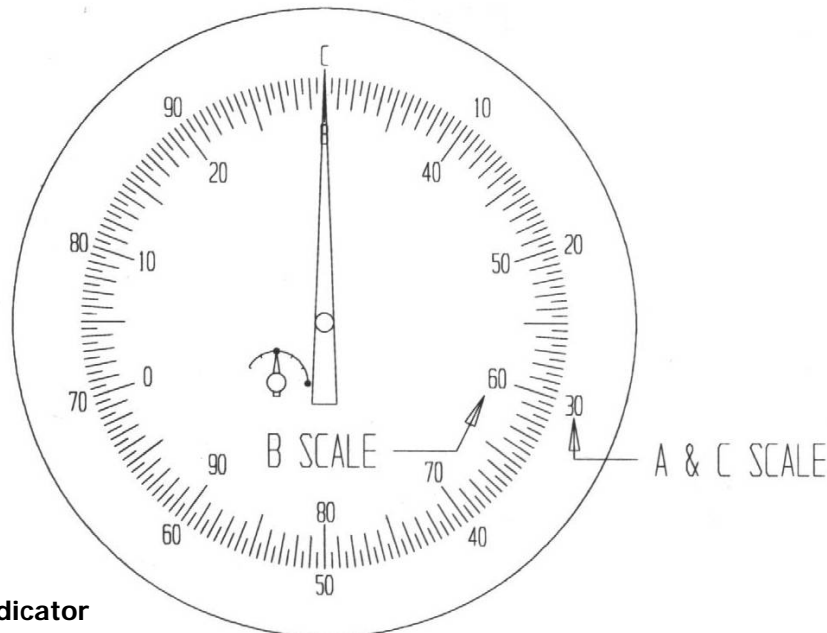
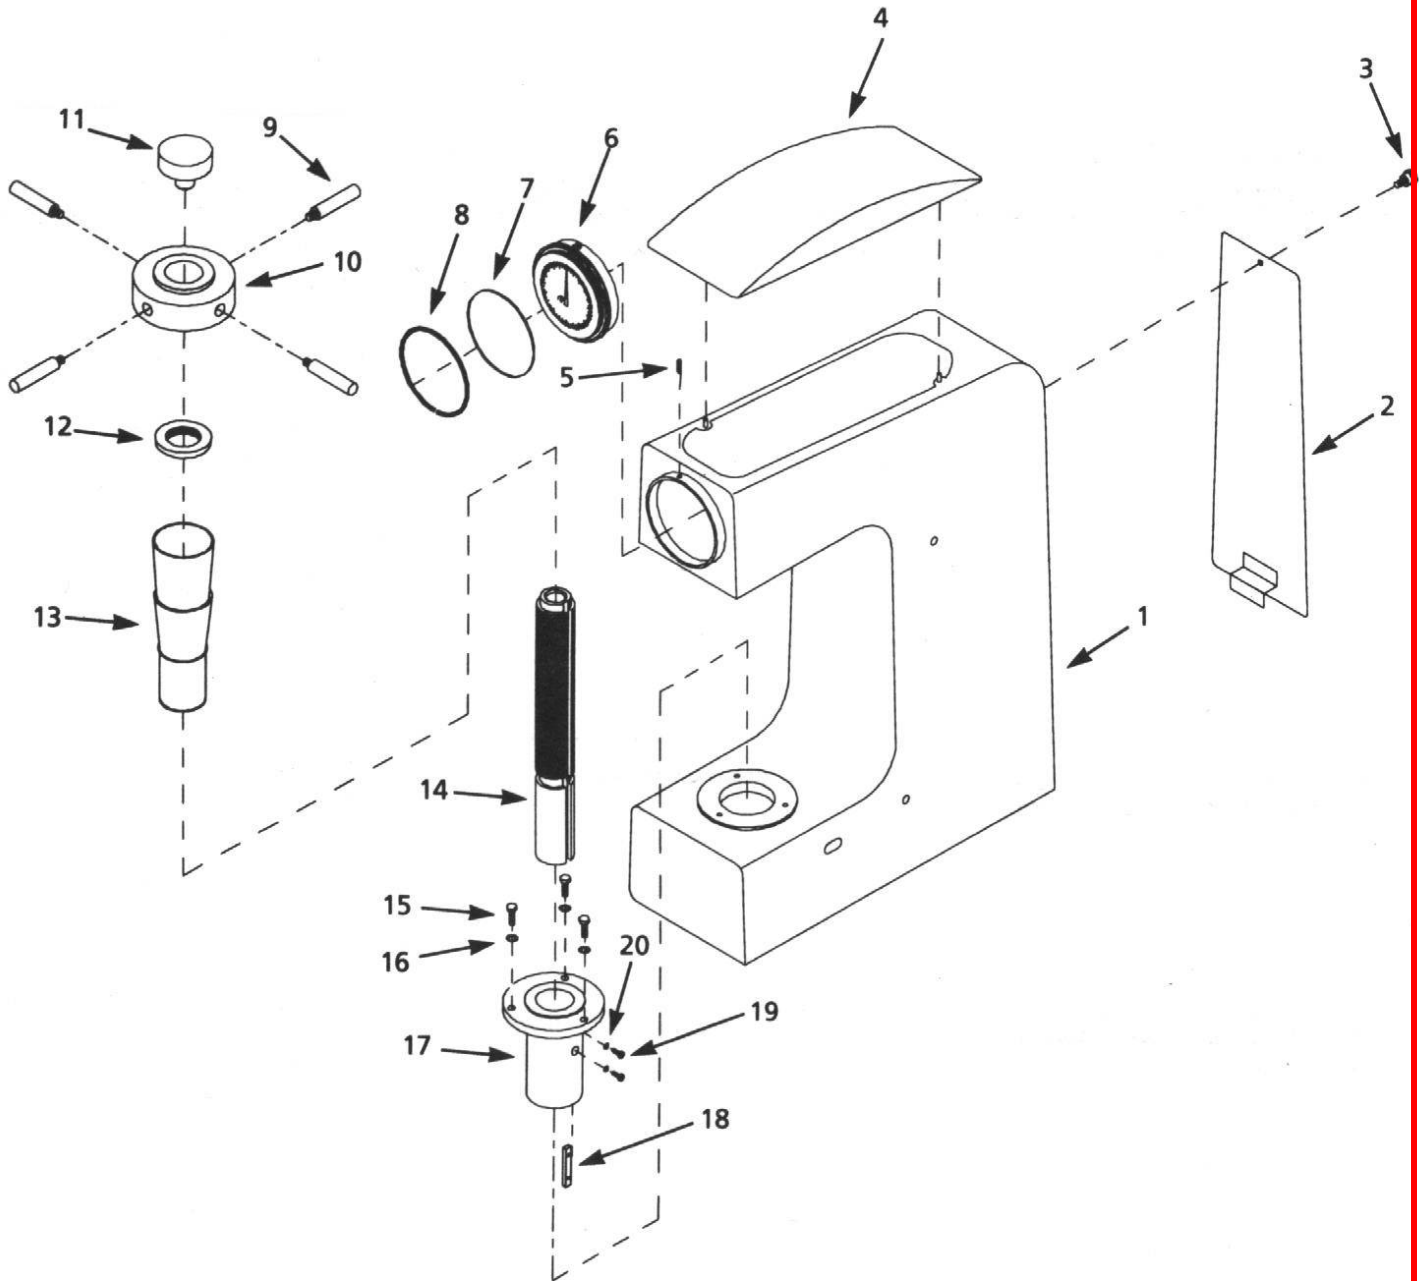

Figure 4 - Dial Indicator
Figure 5 – Replacement Parts Illustration
Remove plastic dust cover from tool and store it in a convenient place for reuse. Remove string binding the frame top to the frame (Fig.5, Ref. No.4 and1).
To release wooden block between indenter and elevation screw (Fig.5, Ref. No.14) turn threaded handle (Fig.5, Ref. No 9) clockwise so that threaded collar travels up on the elevation screw. Continue turning the collar handle until the collar is snug against the top compartment of the elevation screw cover (Fig.5, Ref. No. 13) and wooden block is released. Return collar to original position by turning collar handle counter-clockwise. Raise and snap elevation screw cover on to cover top. (Fig 5, Ref. No. 12). Remove frame top and frame rear cover (Fig 5, Ref, Nos. 4 & 2). Remove 4 each hex head bolts (Fig 2, Ref. A) securing tester to crate bottom, keep the hex head bolts for use when mounting the tester. Remove hex head bolts to remove lever clamp and lever support (Fig. 2, Ref. E, G and H). Remove lag bolts and hex nuts (Fig.2, Ref. C and B). Remove clamping plate and upper weight support bracket (Fig. 2, Ref. F and D).
Be sure lever arm counter weight (Fig. 6, Ref. No, 13) is positioned between the red marks on the lever arm. Replace frame top and secure frame rear cover to frame using the knob (Fig. 5, Ref. No. 3).
1. Mount specimen on required anvil. Rotate the elevation screw threaded collar (Fig 5, Ref No. 10) clockwise slowly until the specimen contacts the indenter. Be sure to position specimen so the indenter contacts clean, untested material.
2. Preload the specimen by rotating the threaded collar slowly until the large needle on the dial indicator assembly (Fig.5, Ref.No.6) rotates three (3) revolutions. Stop rotation of threaded collar when the large needle is within 5 hash marks of vertical as shown in Figure 4.
Figure 4 shows the proper preload position of the large and small needle on the dial indicator.
2. Be sure elevation screw and threaded collar (Fig.5, Ref. Nos. 14 and 10) are clean and lubricated. Lubricate with general purpose wheel bearing grease.
## Replacement Parts List (Figure 5)